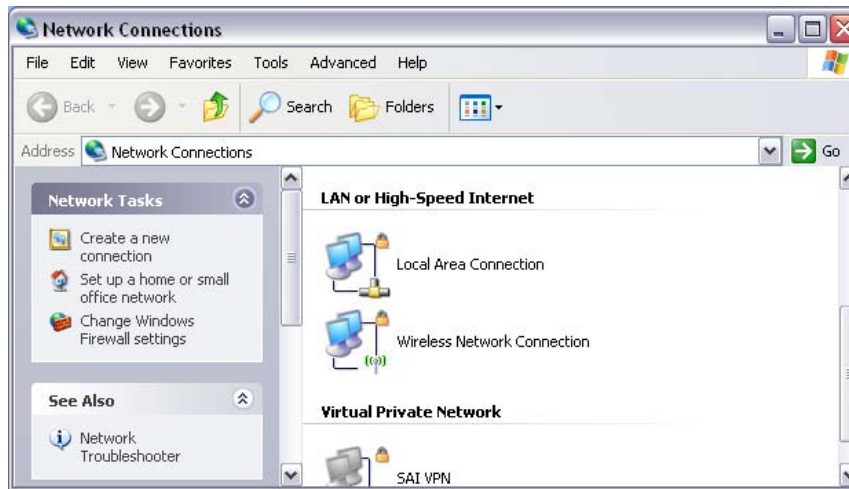

Figure 3-6, Network Connections
2. When the Network Connections screen (Figure 3-6) appears, ensure the icon to the left of “Wireless Network Connection” does not have a red X over it. Proceed to step 3 if so, exit if not.